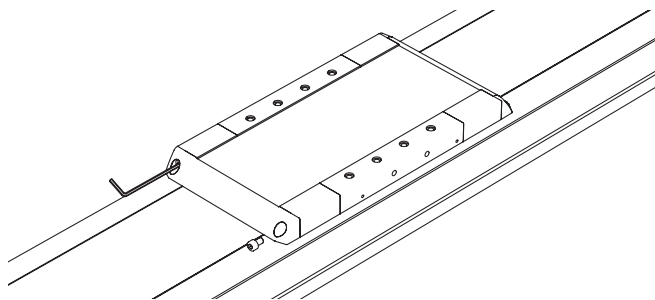

Fig. 7.15 Removing/mounting the carriage end piece
- ▶ Undo the carriage end piece screws. Remove the end pieces from both ends of all carriages (see Fig. 7.15).
- ▶ Place the carriage end pieces on the cover strip deflection as shown in Fig. 7.15 and hand-tighten the mounting screws.